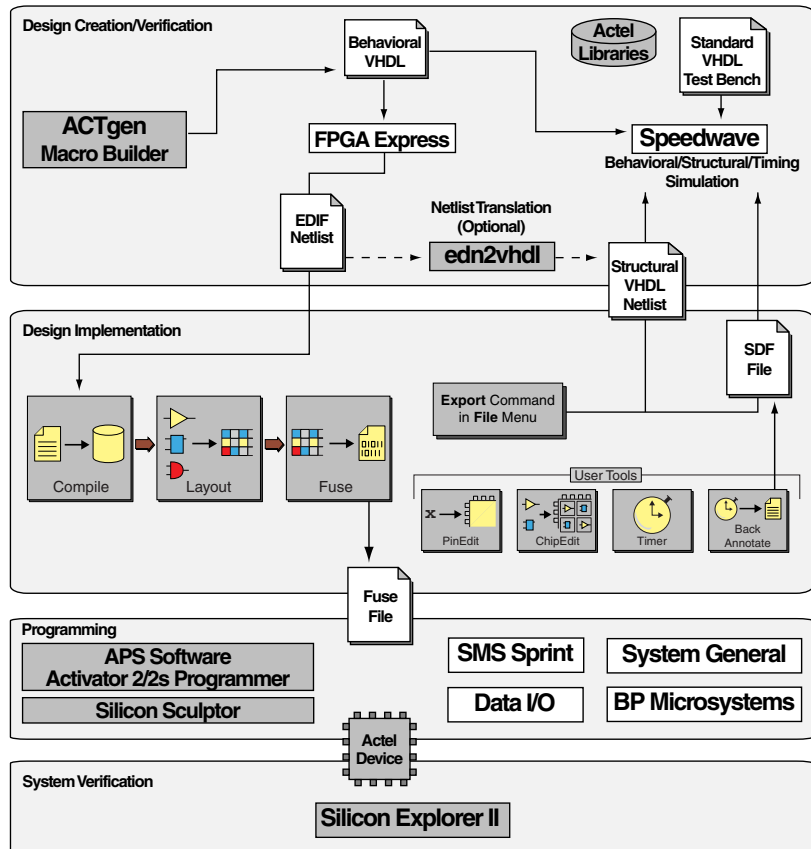

Figure 2-2. Actel-Innoveda VHDL Synthesis-Based Design Flow
Figure 2-2 shows the VHDL synthesis-based design flow for an Actel device using the eProduct Designer and Designer Series software¹.
1. The grey boxes in Figure 2-2 denote Actel-specific utilities/tools.